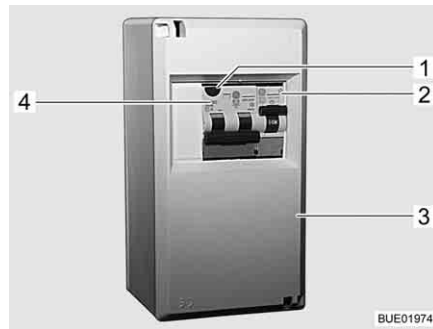

Fig. 126 230 V fuse box
A combined fault current protection switch / safety cut-out (Fig. 126,4) in the fuse box (Fig. 126,3) protects the complete vehicle from fault current (0.03 A).
For vehicles with special equipment, (e.g. air conditioning unit), the appliance is protected by an additional safety cut-out (10 A) (Fig. 126,2).
- When the vehicle is connected to the 230 V power supply, press the test button (Fig. 126,1). The fault current protection switch must trip.